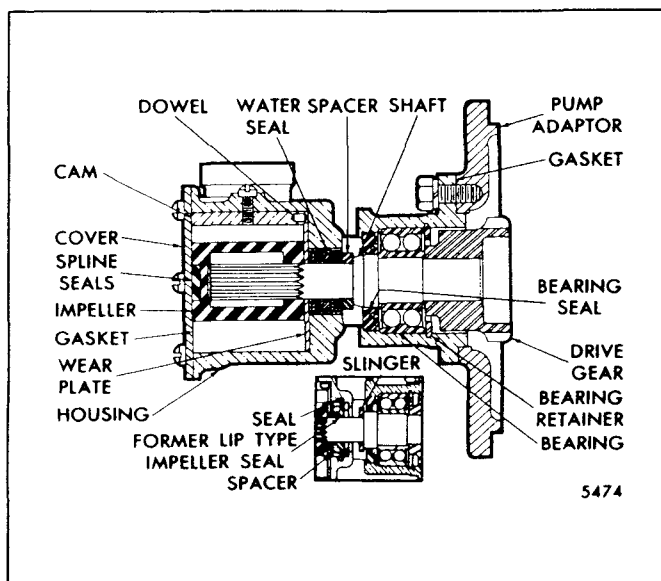

Fig. 1 - Raw Water Pump used on In-Line Engine
1. Remove the cover and gasket (Figs. 1 and 2).